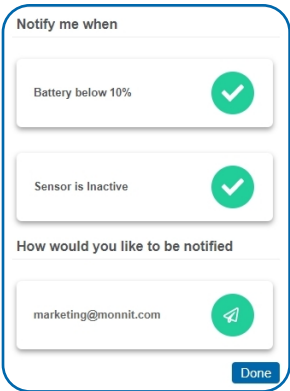

Figure 5
**Choose your actions. See Figure 5.**